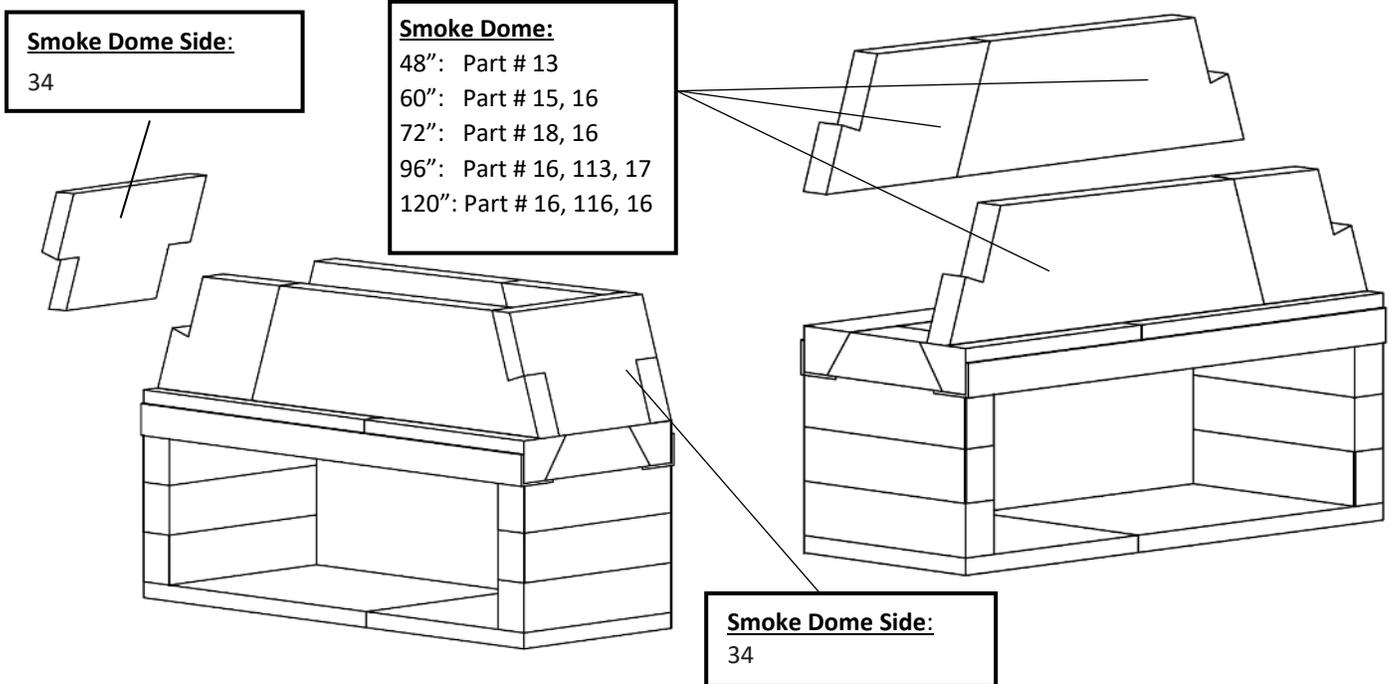

FIGURE 17
- 8) With the front/rear smoke dome components in place, apply Earthcore Adhesive to all adjoining surfaces of the sloping smoke dome sidewall components. The sloping smoke dome side walls will be placed in between the front and rear smoke dome components at the ends of the firebox and are designed to rest in their notched ends. Once assembled, compress the smoke dome components by applying pressure to the front/rear of the smoke dome assembly to force the components together. Repeat this process on the opposite side of the firebox (**Figure 17**).